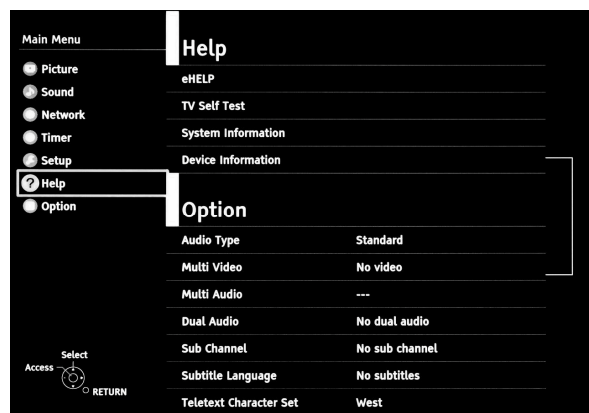
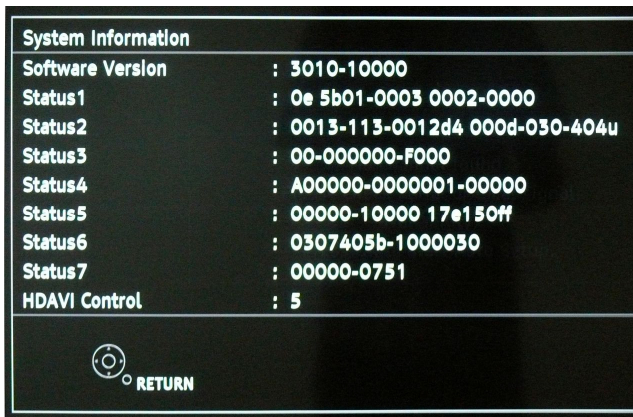

Fig.7
Fig.8
2. To select [ Help] and then to select [System Information].(see Fig.7, Fig.8)